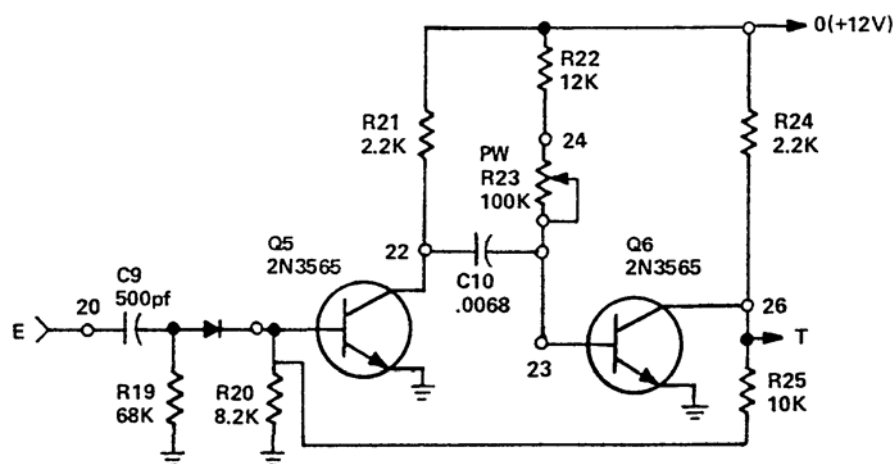

Figure F-3. Monostable Multivibrator
(1) Without an input trigger pulse, the monostable MV remains in its static condition. When the circuit is not developing an output, it must be determined if the multivibrator is at fault or if the trigger circuit is at fault. There must not only be an input trigger; it must also have sufficient amplitude to trigger the circuit. If a stable trigger is present and there is no output, then the trouble is localized to the MV circuit.
(2) Refer to Figure F-3. An open in any part of the circuit would in most cases eliminate the pulses in the output. A short could have the same effect if it occurred in either transistor, but the results may be slightly different for different parts of the circuit. If R23 were to short, the output pulse width would no longer be adjustable. If a short or open is suspected as being the probable cause of a malfunction, an in-circuit voltage or resistance check compared with known good readings would be useful in identifying the faulty component.